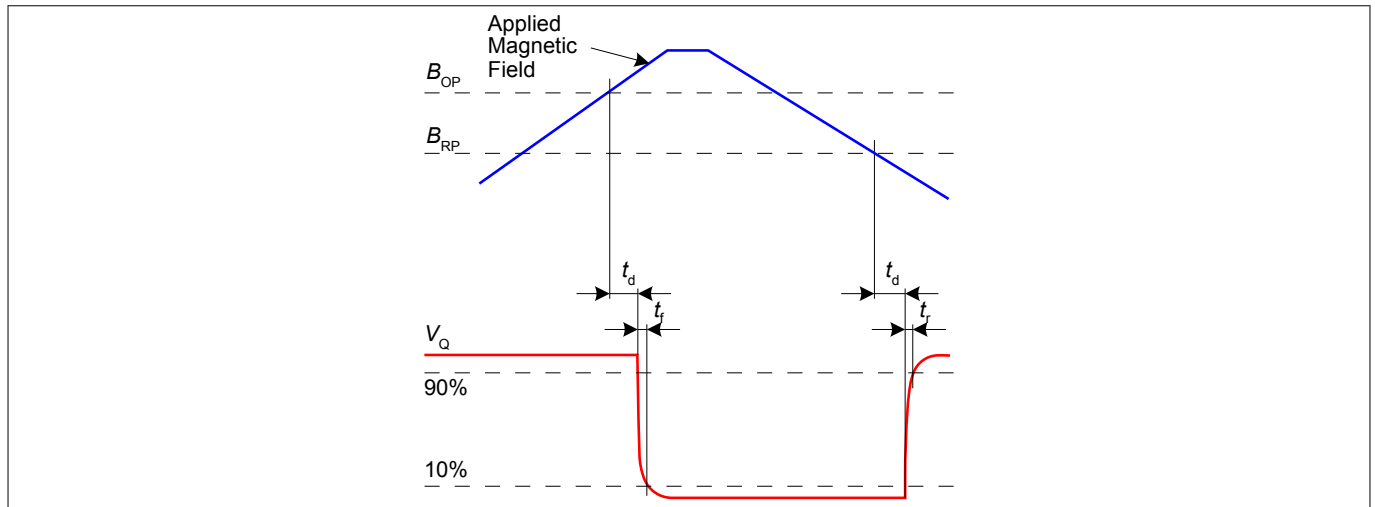

Figure 6 Timing diagram
(1) See Figure 6
(2) To operate the sensor at maximum switching frequency, the value of the magnetic signal amplitude must be 1.4 times higher than the static fields. This is due to the -3 dB corner frequency of the low pass filter in the signal path.
(3) Systematic delay between magnetic threshold reached and output.
(4) Jitter is the unpredictable deviation of the output switching delay.
(5) Time from applying  $V_S > 2.7\text{ V}$  to the sensor until the output state is valid.
(6) Relationship between junction and ambient temperature:  $T_J = T_{amb} + R_{thja} \cdot (V_S \cdot I_S + V_{QS} \cdot I_Q)$ .